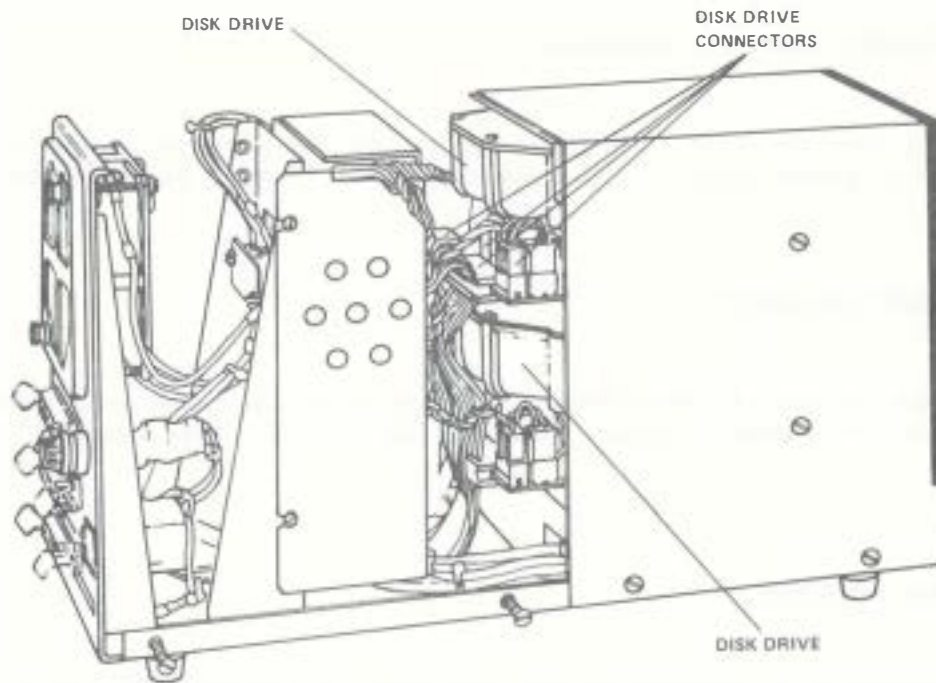

Figure 5-33. Hard Disk Drive Connections
5. Disconnect the four connectors on the rear of each hard disk drive. See Figure 5-33.
4. Reconnect the four connectors to the rear of each of the disk drives. See Figure 5-33.